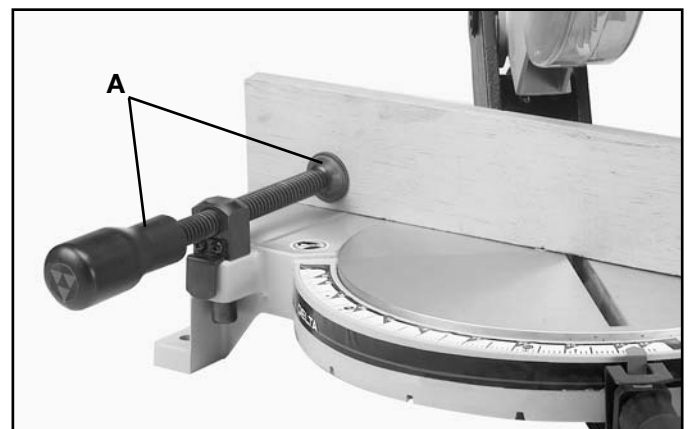

Fig. 24
1. An ideal accessory for use with your miter saw is the 36-221 Work Clamp, shown at (A) Fig. 24.